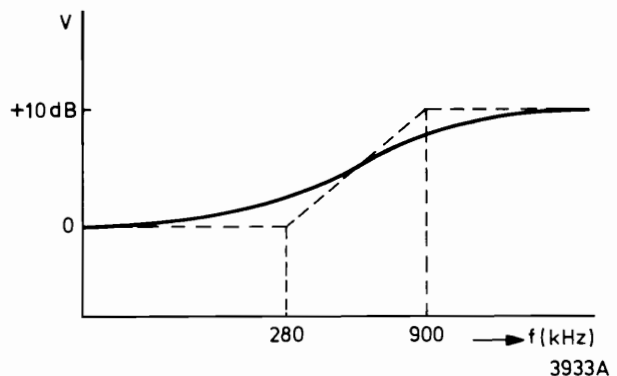

Fig. II-7
- In Fig. II-7 the frequency response of the pre-emphasis amplifier is shown.